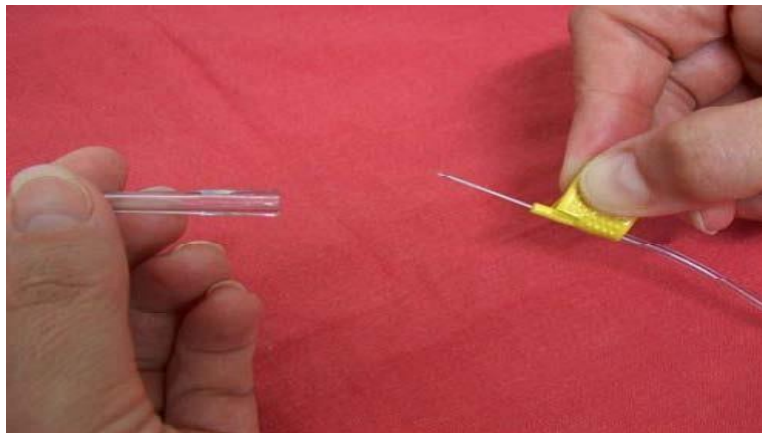

Fig 6.
6. Remove the plastic needle cover (Fig 6.) and insert needle into the chosen site at an angle of 45 degrees and secure site with a clear dressing.